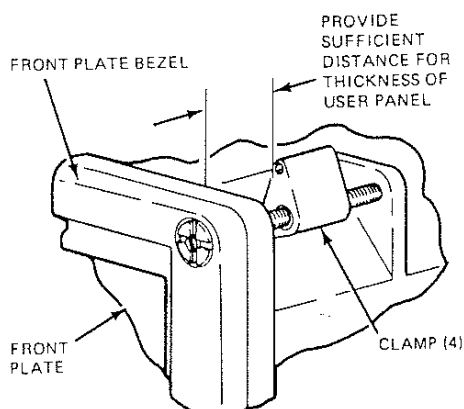

Figure 3.
2. Check distance between clamp surface and rear surface of front plate bezel, for all four clamps, to confirm that sufficient distance is provided to accommodate thickness of panel. Refer to Figure 3.